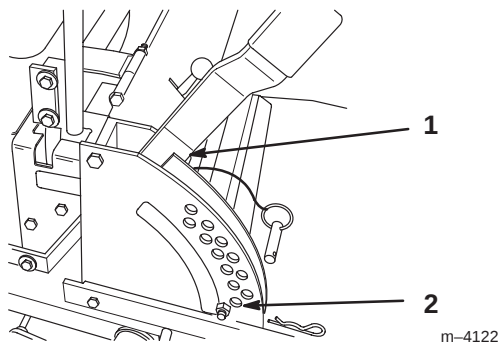

Figure 41
2. Check tire pressure of all four (4) tires. If needed, adjust to 13 psi (90 kPa)
4. Raise the deck to the transport position (Fig. 41). Take force off of the two large deck lift springs by loosening jam nut and front spring nut, in front of each spring, as far as possible (Fig. 42).
5. Place two 1-1/4" (35 mm) thick blocks under rear left and right lower edge of mower. Place one 1-3/8" (44 mm) block under front center lower edge of mower. Not under anti-scalp roller brackets. Lower mower to the 1-1/2" (38 mm) height-of-cut position (Fig. 41).
14. Raise deck lift lever to the transport position, (Fig. 41).